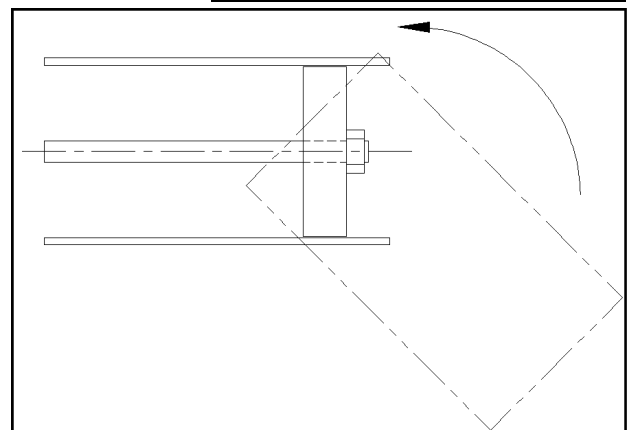

Figure 7—Assembling Cylinder
7. Carefully slide the cylinder tube (C13) over the piston (C10). The piston seal (C11) must be well lubricated. Start the cylinder tube (C13) at a 45° angle and rotate it into position onto the piston (C10). See Figure 7.